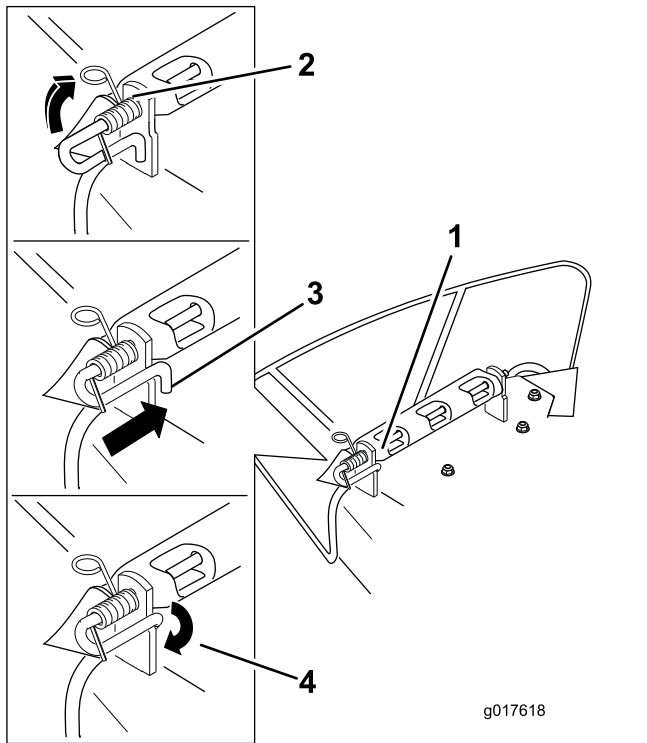

Figure 76
4. Position the new discharge deflector with the bracket ends between the welded brackets on the deck as shown in Figure 76.
7. Lift the loop end of the spring and place it into the notch on the deflector bracket (Figure 76).
8. Secure the rod and spring assembly by twisting it so the short end of the rod is placed behind the front bracket welded to the deck (Figure 76).